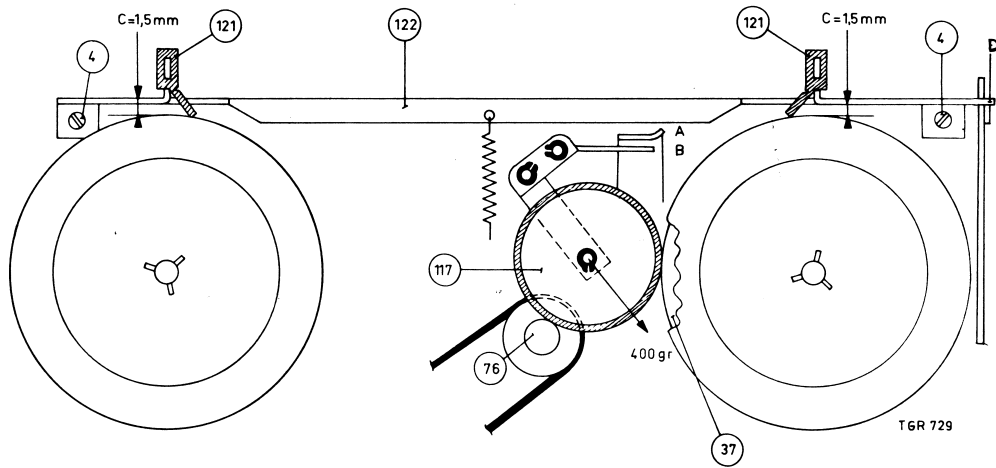

Fig. 6
Adjusting the brake bracket, item 122, see Fig. 6
- Loosen both screws, item 4.
- Make sure that the brake shoes are positioned as shown in Fig. 6.
- Tighten the screws, item 4.
- Depress the "play-back" button so that the pressure roller just touches the capstan. Then, bend tag A so that the brake shoe, item 121, just releases the right-side reel.
- Switch on the apparatus and slowly depress the "play-back" button. The intermediate wheel, item 117, should start driving the friction wheel, item 37, just before the brake bracket releases the right-side reel.